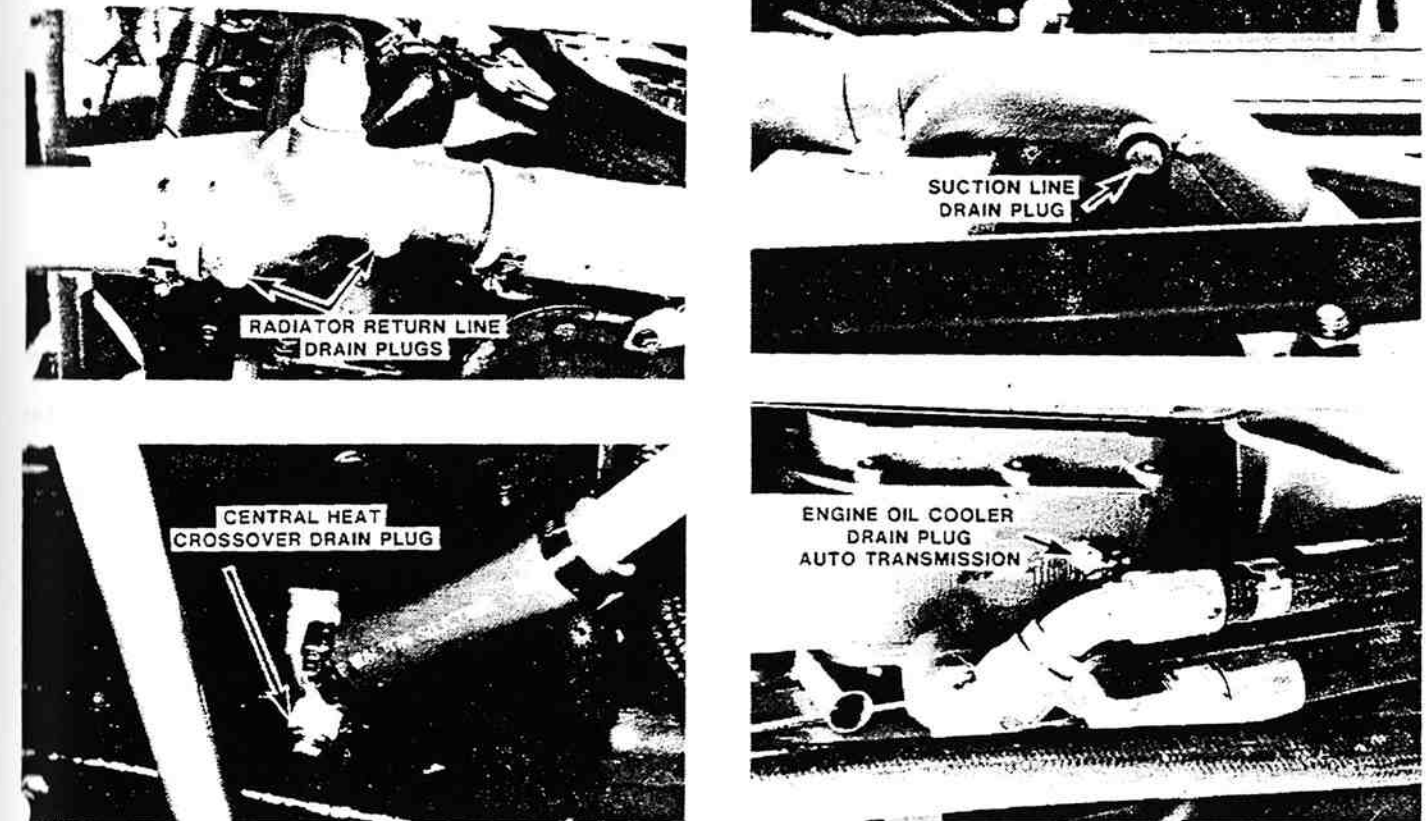

Figure 6-6. Drain Plugs and Coolant Filter.
**NOTE:** Descriptions and locations of cooling system drain points were outlined previously in this section. See figures 6-6 and 6-7.